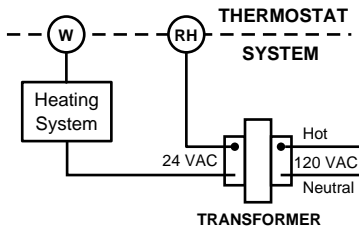

Figure 2. Typical wiring diagram for heating only, 2-wire, single transformer systems
2. Connect wires beneath terminal screws on base using appropriate wiring schematic (see figs. 2 through 5).